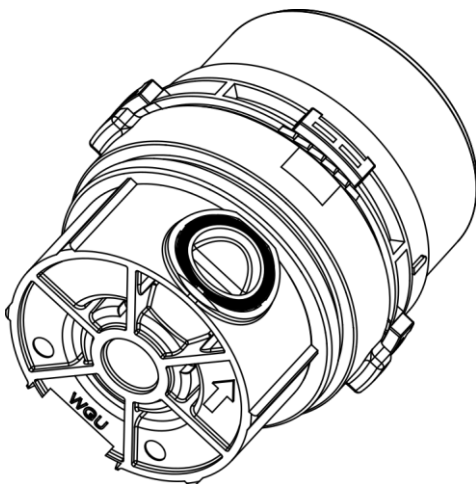

Figure 19. Gasket WGU
3. Check that the O-ring on the outlet side of the flow diverter is seated correctly and correct if necessary (Fig. 19).